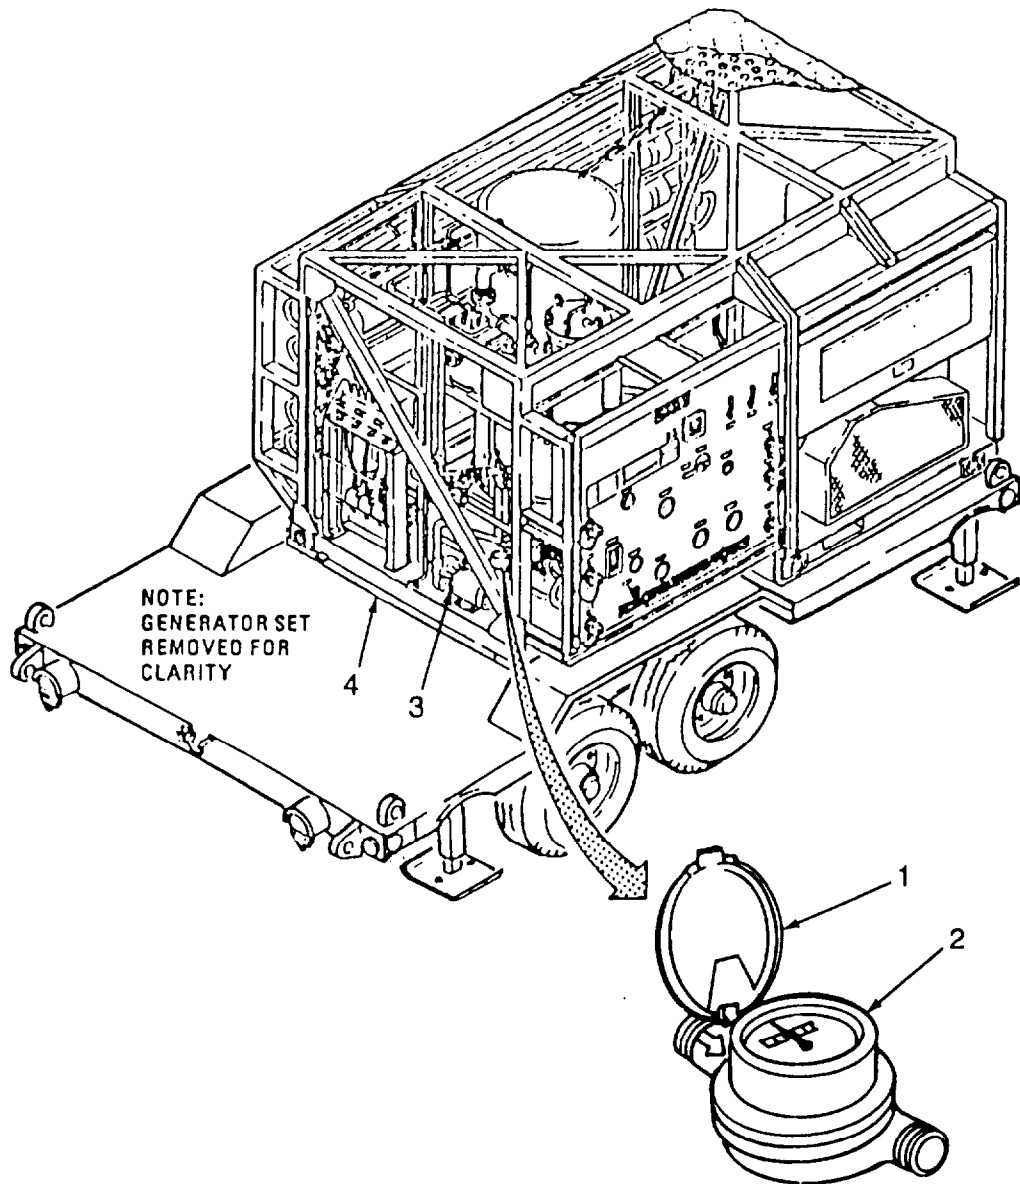

Figure 2-4. Water Meter.
- a. Product Water Meter. Refer to figure 2-4. The product water meter (2) is located on the floor of the ROWPU frame (4) directly behind the booster pump (3). A lid (1) protects the face of the meter from damage. This water meter is used to indicate the total number of gallons, in tenths of a gallon, of product water the unit has produced. The number of gallons is read directly from the numerals in the small window and the tenths of gallons from the position of the needle on the dial face.
(1) One revolution of dial equals 10 gallons of product water produced.
(2) The meter registers as follows:
(3) After one revolution, a total of 10 gallons are produced and the meter will register as follows:
(4) After two revolutions:
(5) After 10 revolutions: